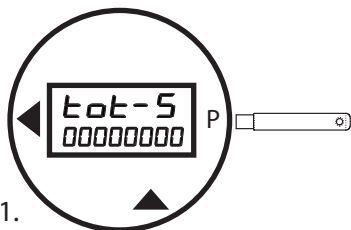

Figure 21.
- Pass the wand over the **P** until you reach the **tot-S** menu selection (Figure 21).